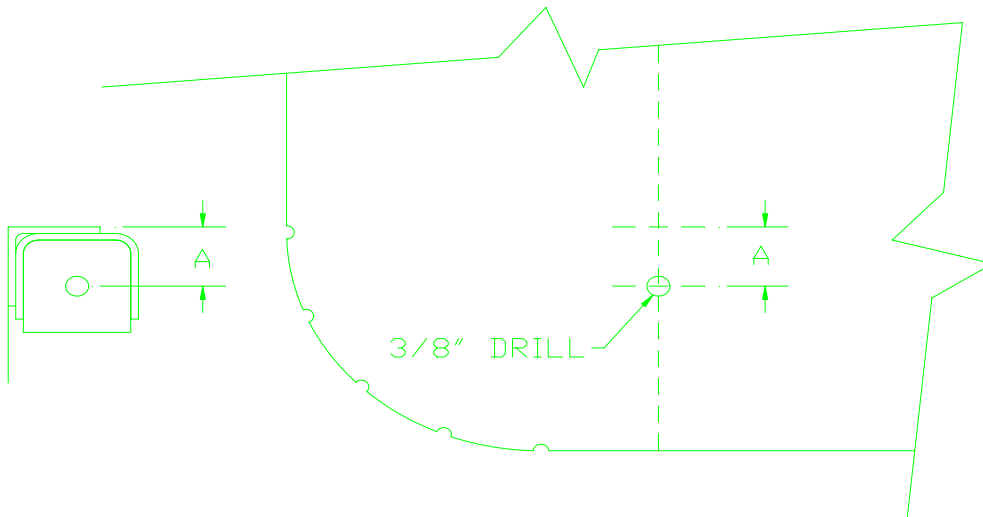

FIGURE 18
- 27) Remove the firewall. Measure from the top of the angle to the center of the engine mount fitting hole. Figure 18. Measure down the same distance on the firewall. Where this line intersects the vertical line on the firewall drill a $\frac{3}{8}$ " hole. Repeat for other side.